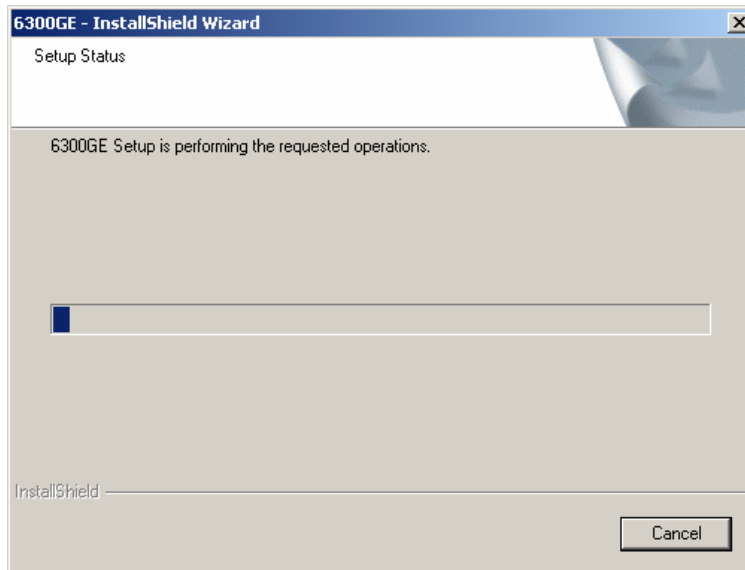

Figure 9
- The Setup Status window will appear (Figure 9) showing the user the status of the installation procedure as it proceeds. A progress bar will visually indicate the installation's progress while text will detail the module component being installed.